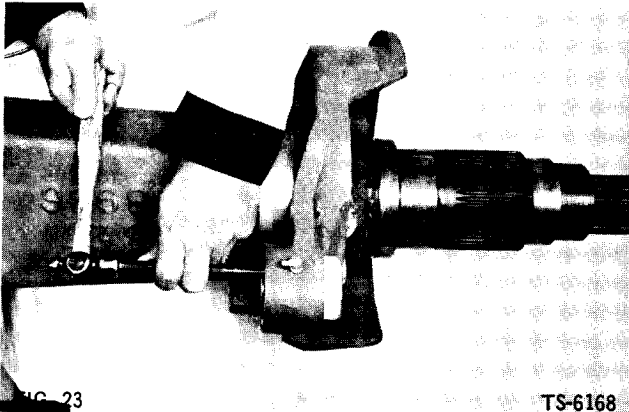

FIG. 23
23. If damaged, drive brake cam shaft bushing from brake spider (Fig. 23).